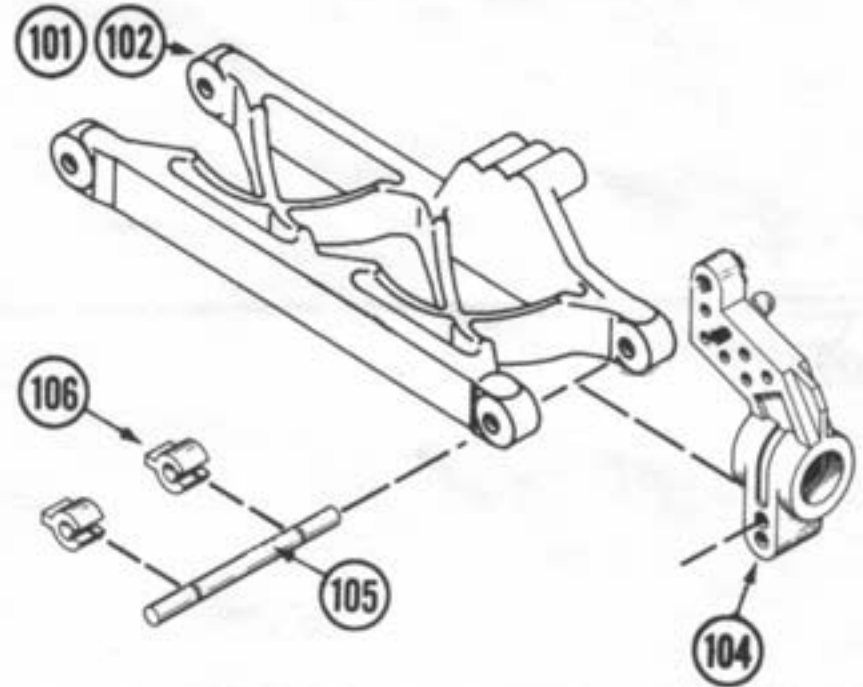

Figure 37
17. Place hub carrier (104) between outer rails of H-arm (101), (102). Fig. 37
* Note: Be sure the ball stud (4) in hub carrier (104) is pointing forward
18. Insert 1/8" x 1.420 hinge pin (105) through H-arm (101), (102) and through upper hole of the hub carrier (104). Fig. 37
19. Snap the H-arm spacers (106) into grooves on pin (105). Fig. 37
*Note: It's easiest if one groove in the pin (105) is given excess room for spacer (106), then push hub carrier (104) up against it and snap on second spacer (106).